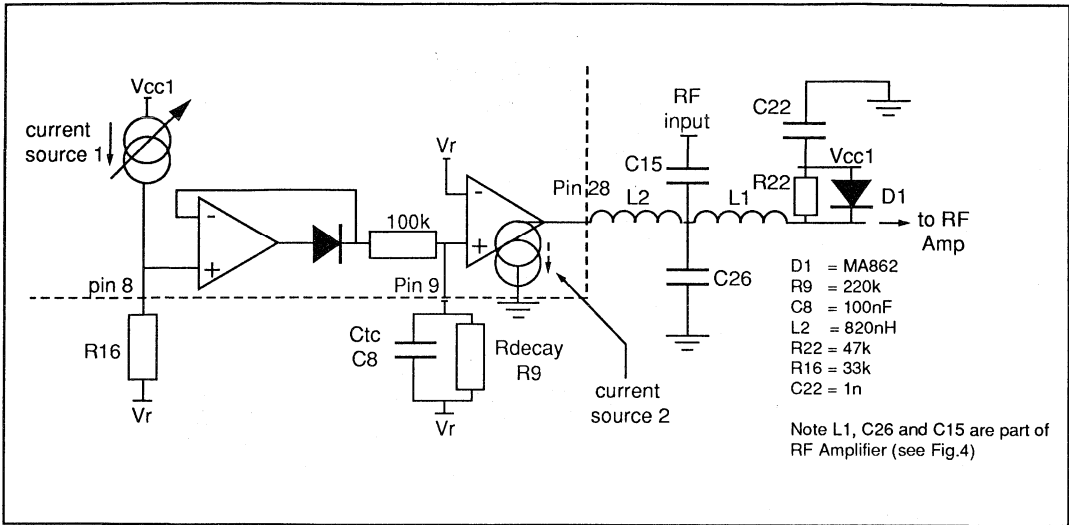
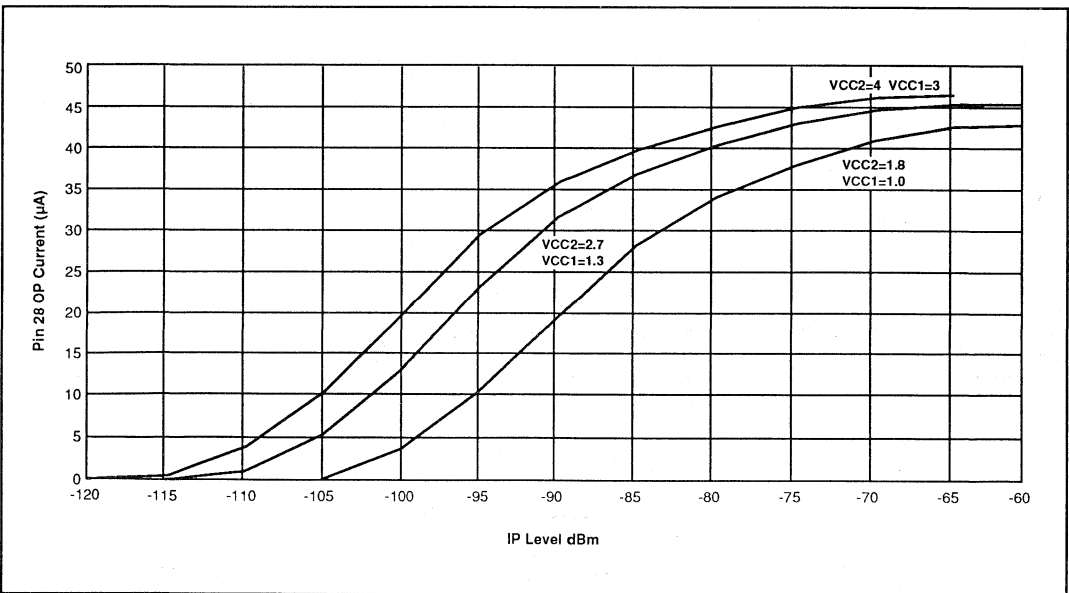

Fig.6 AGC Schematic
Fig.7 Audio AGC current vs. IP power at 25°C
- L2 is used in the Audio AGC circuit (see Fig.6). For the characteristics of the Audio AGC current source see figure 7. If the Audio AGC is not required then the current source (Pin 28) may be disabled by connecting Pin 9 (TCADJ) to VR (Pin 6) and by connecting Pin 28 (IAGCOUT) to Vcc1, (R18). The voltage at Pin 8 may still be used as an RSSI. R9, C8, C14, C19, R17 and D1 may then be omitted.